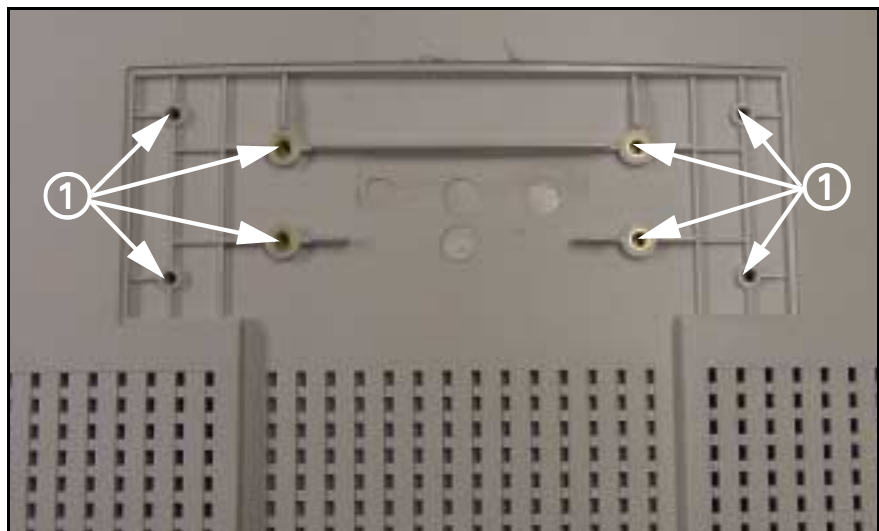
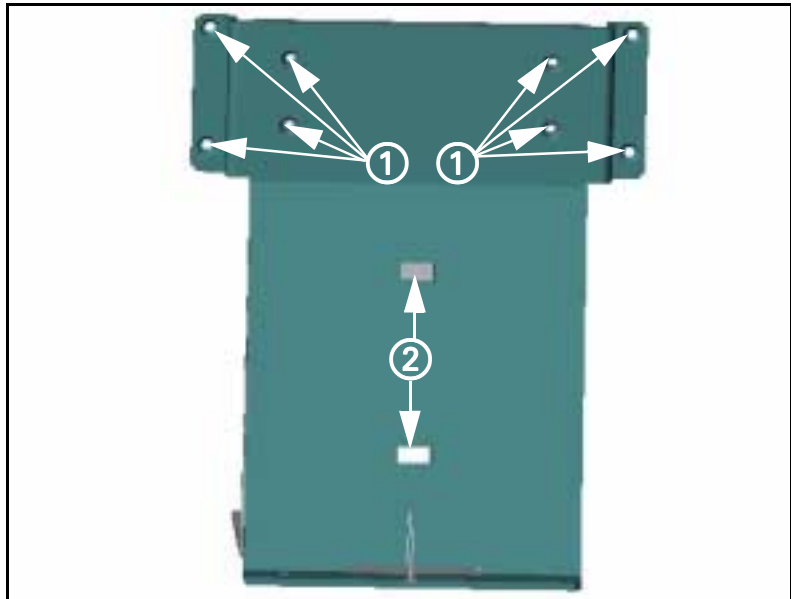

Figure 5-4 Flat Screen Display (rear view)
Figure 5-5 Flat Screen Support Mount
- 5) Place flat screen display face down on clean surface. See Figure 5-4 on page 10.
- 6) Align 8 support mount clearance holes (① in Figure 5-5) to threaded holes on back of flat screen display (① in Figure 5-4).
- 8) Insert 1 cable tie (supplied) through back of each slot (② in Figure 5-5) to enable power supply to be secured to support mount.